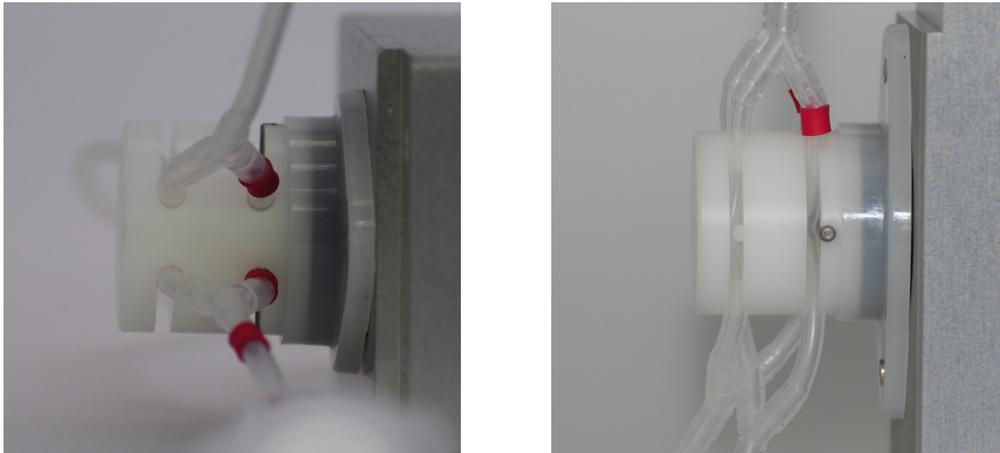
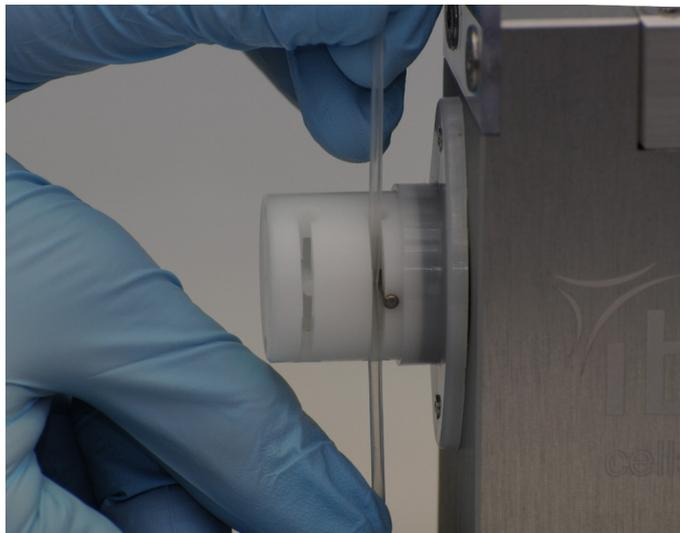

Figure 25: Top view (left) and side view (right) of properly mounted tubing in the pinch valve.
Figure 26: Move the tubing up and down while stretching for easy placement into the valve slots.
6. Check the correct position of the tubing in the openings of the pinch valve (Figure 25).
For easy mounting, stretch the tubing and move it up and down. Stretch the tubing only between the y-connectors to ensure the tubing is not disconnected (Figure 26).
If the liquid is moving in one or both of the positions, check the insertion of the tubing in the pinch valve. Stretch the tubing and move it up and down for proper placement in the valve’s slot (Figure 26). Also check for correct positioning of the tubing (Figure 25). If this action does not correct the problem, contact ibidi or your local distributor.